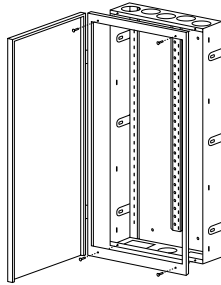

Figure 3-5. Installing the lid cover (optional).
4. Install the hinged door or lid cover (see Figure 3-5) (this is optional, and they're ordered separately). The door (lid cover) shown in Figure 3-5 is the JHN1030A-LC. Do not overtighten the lid cover.
4. Install the hinged door or lid cover (this is optional, and they're ordered separately). The door (lid cover) shown in the diagram below is the JHN1030A-LC. Do not overtighten the lid cover. (See Figure 3-5.)